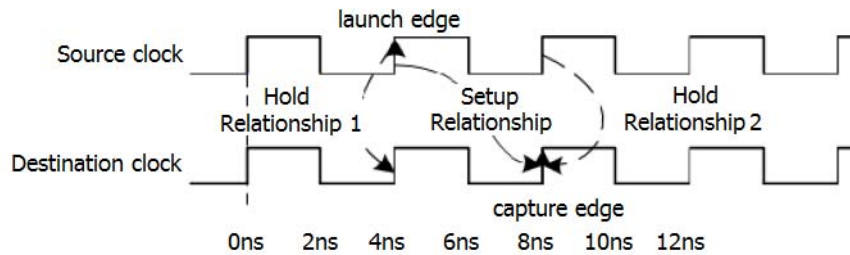

Figure 7-1: Example of Setup and Hold Relationships for a Path
IMPORTANT: There are two hold relationships for each setup relationship. (1) The first hold relationship ensures that the setup launch edge is not captured by the edge arriving before the active capture edge. (2) The second hold relationship ensures that the edge after the active launch edge is not captured by the active capture edge. The timing analysis tool calculates both hold relationships but only the most restrictive is kept during analysis and reporting. See Figure 7-1, Example of Setup and Hold Relationships for a Path.